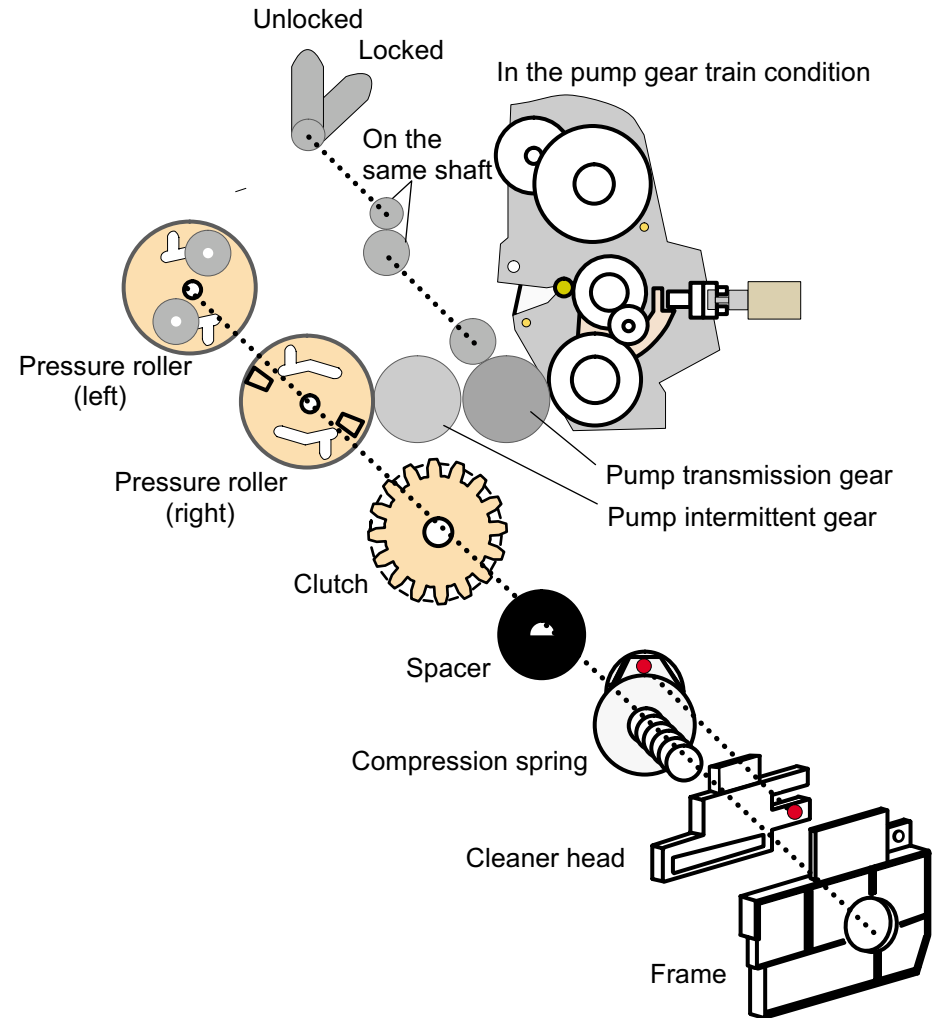

Figure 2-8. Pump / Carriage Lock / Head Cleaner Mechanism
The pump mechanism operates in accordance with the carriage lock and head cleaner control mechanisms. Figure 2-8 illustrates the process of torque transmission from the pump/ASF motor to each mechanism.
5. The cleaner head is located between the pump frame and the cleaner head drive roller, and a compression spring is set between the cleaner head and the cleaner drive roller. Since the cleaner head has a protrusion (marked with a red circle in Figure 2-8) on it on the roller side, it moves back and forth along with the roller rotation. However, if the roller rotates faster than the specific level, it rotates alone because tension of the compression spring does not work any more.